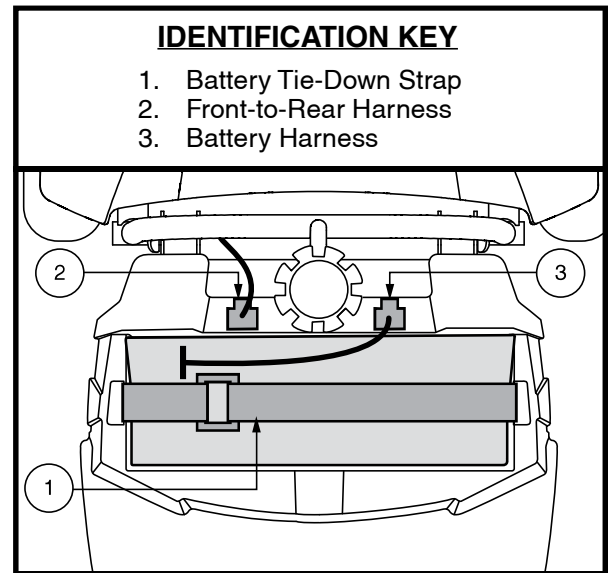

Figure 22. Battery Tie-down Strap
1. Disconnect the battery harness and remove the battery pack from the Travel Scooter. See figure 22.
See figure 22.